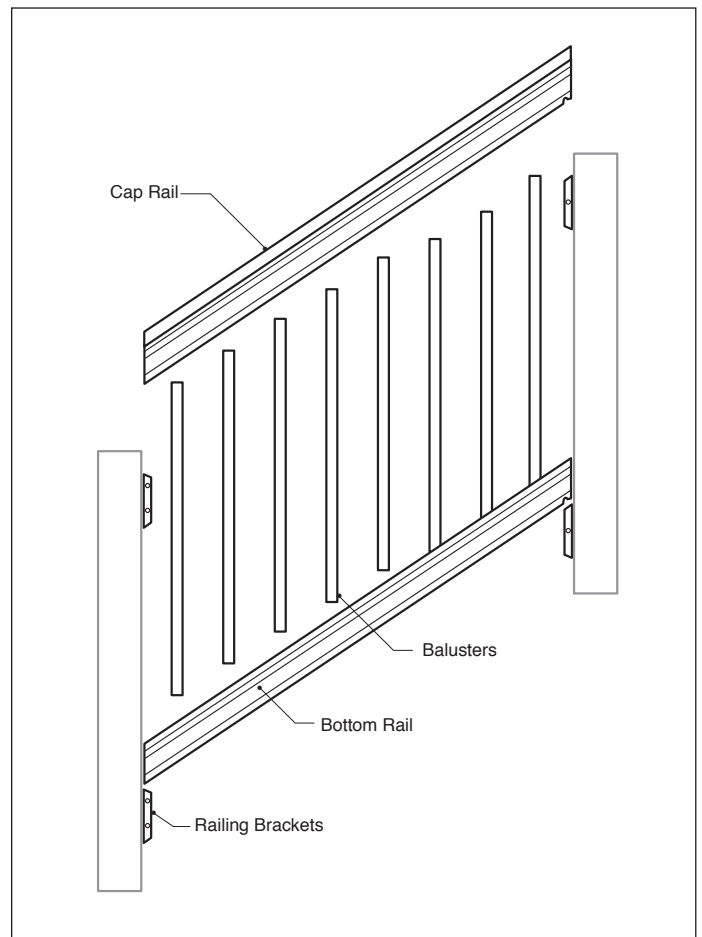

fig. 4
Step 3: Attach the (4) 2x4 DeckoRail railing brackets according to the included instructions.
Step 4: Attach the bottom 2x4 rail, with the holes facing up, using the 2x4 DeckoRail railing brackets. Insert the balusters into the pre-drilled holes (**fig. 4**).
Step 5: Attach the cap rail by aligning the holes to the baluster at one end of the rail and working your way to the opposite end, ensuring that all of the balusters are secured between the two rails (**fig. 4**).